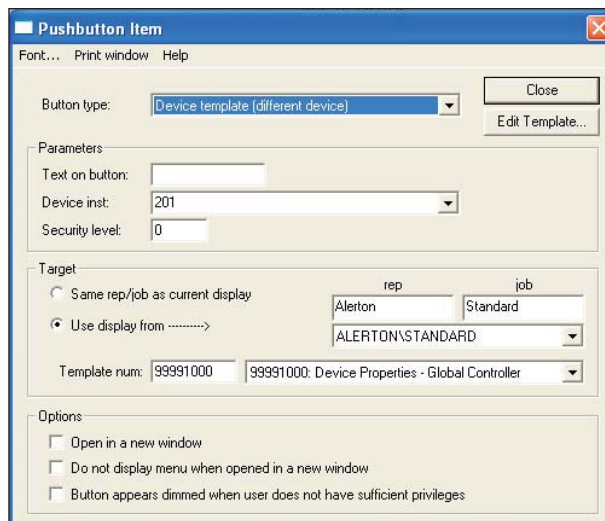

Figure 8: Pushbutton settings.
- e. For the other settings, use the values shown in Figure 8.